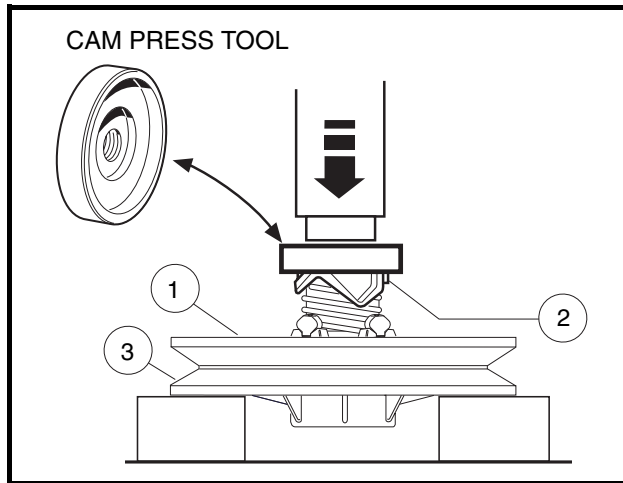

Figure 17-23 Cam Press Tool
- 5.1.1. Place the clutch assembly in a press and position the cam press tool (CCI P/N 101809101) on the cam as shown (**Figure 17-23, Page 17-17**).
- 5.1.2. Hold the fixed face assembly (3) and rotate the moveable face assembly (1) one-third turn **clockwise**, then press the cam (2) onto the fixed face assembly (**Figure 17-23, Page 17-17**).
- 5.2.4. Hold the clutch assembly and cam installation tool together and place the fixed face down on spaced blocks (**Figure 17-23, Page 17-17**).